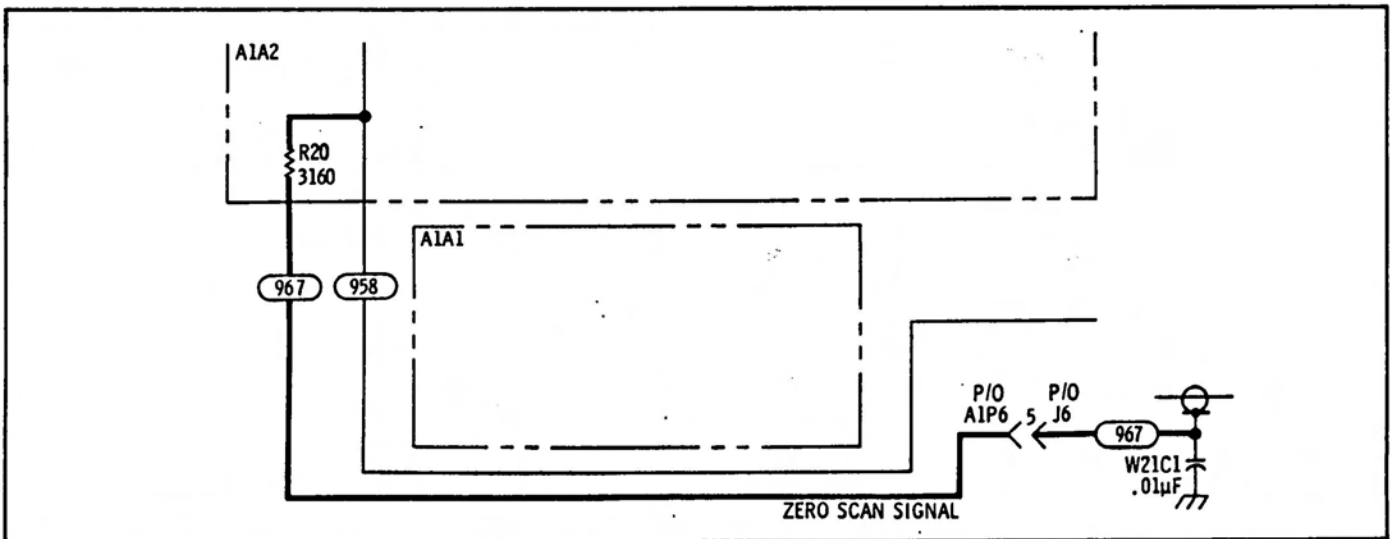

Figure 7-9. Partial Schematic of Figure 8-65, Zero Scan Signal Line to A1A2 (P/O Change E)
Add resistor A1A2R20 and Zero Scan Signal line (967) between shield of cable W21 and (958) line as shown in heavy lines in the partial schematic, Figure 7-9.